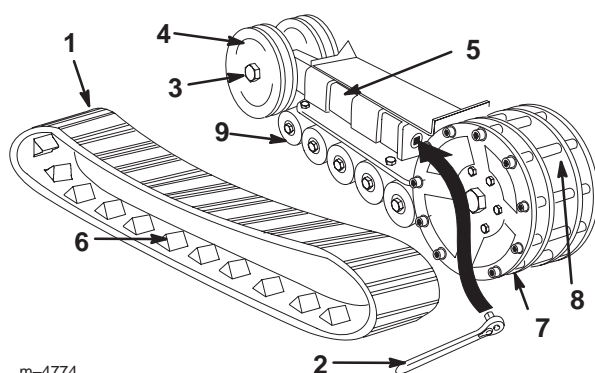

Figure 2
5. Push the tension wheel toward the rear of the unit to move the tension tube against the frame (Fig. 2). (If it does not touch the frame, continue turning the tensioning screw until it does.)
6. Remove the nut securing the outer tension wheel and remove the wheel (Fig. 2).
7. Remove the track (Fig. 2).
1. Install the new track, ensuring that the lugs in the track fit between the spacers in the middle of the drive sprocket (Fig. 2).
2. Install the outer tension wheel and secure it with the nut (Fig. 2).